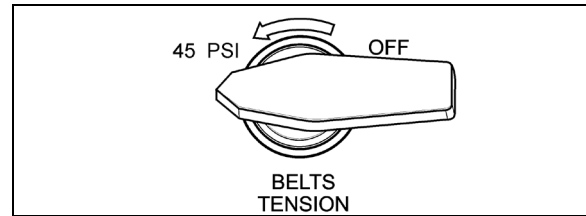

FIGURE 15: BELT TENSIONER VALVE ON REAR CONTROL PANEL (OPTION)
8. Locate the A/C compressor belt tensioner pressure releasing valve (if so equipped). Turn pressure releasing valve handle counterclockwise in order to release pressure in belt-tensioner air bellows and loosen belts (Figure 15). Remove the belts.